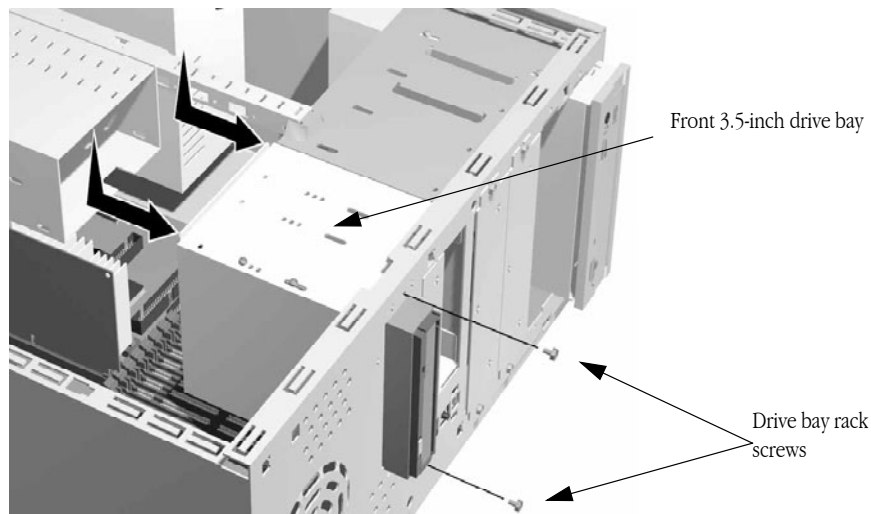

Figure 10: Front bay installation
7. Unscrew the two screws on the front of the computer located on either side of the floppy disk drive faceplate. Pull the entire floppy disk drive bay toward the rear of the computer until it disengages. Disconnect the components located in the floppy disk drive bay and lay them aside. (see *Figure 10: Front bay installation* on page 24).